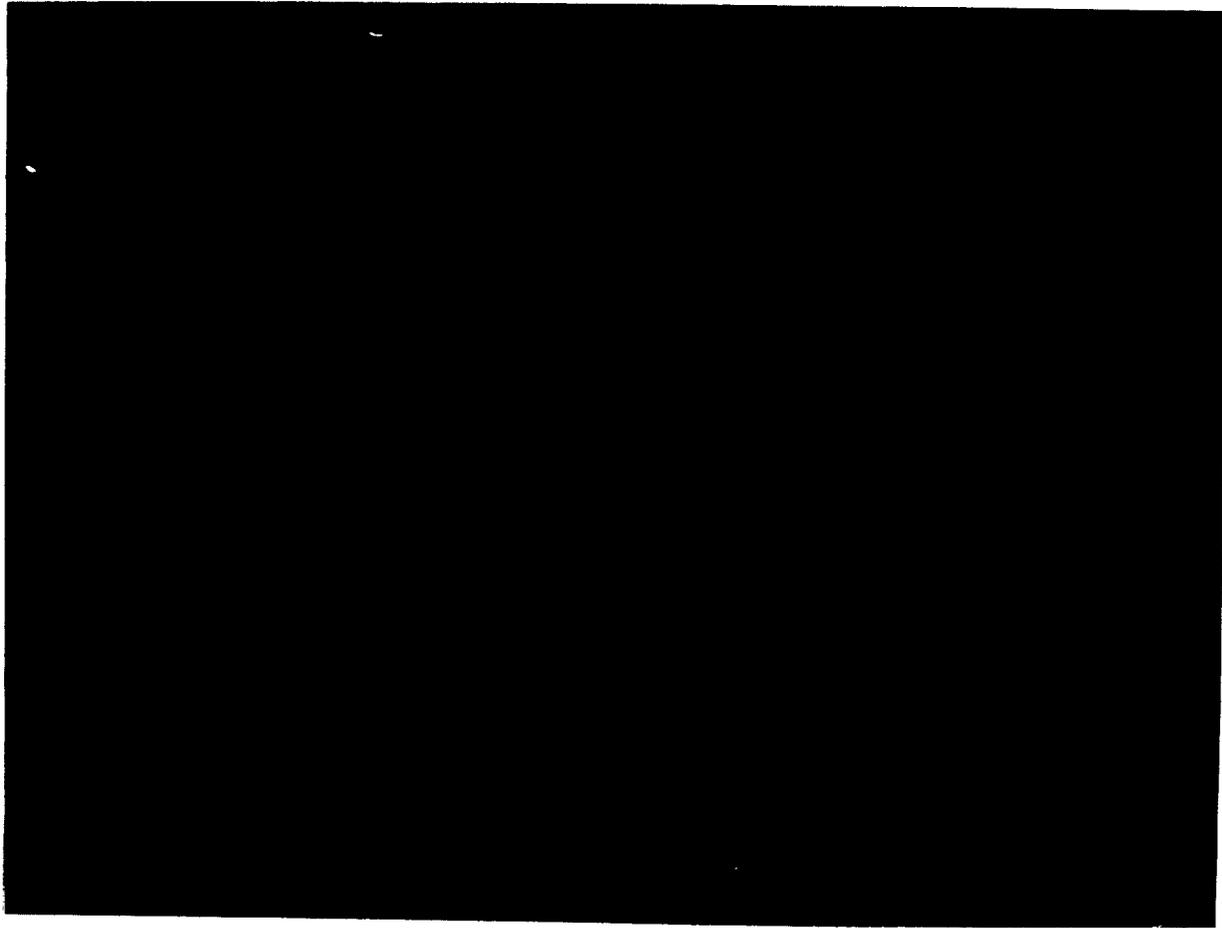
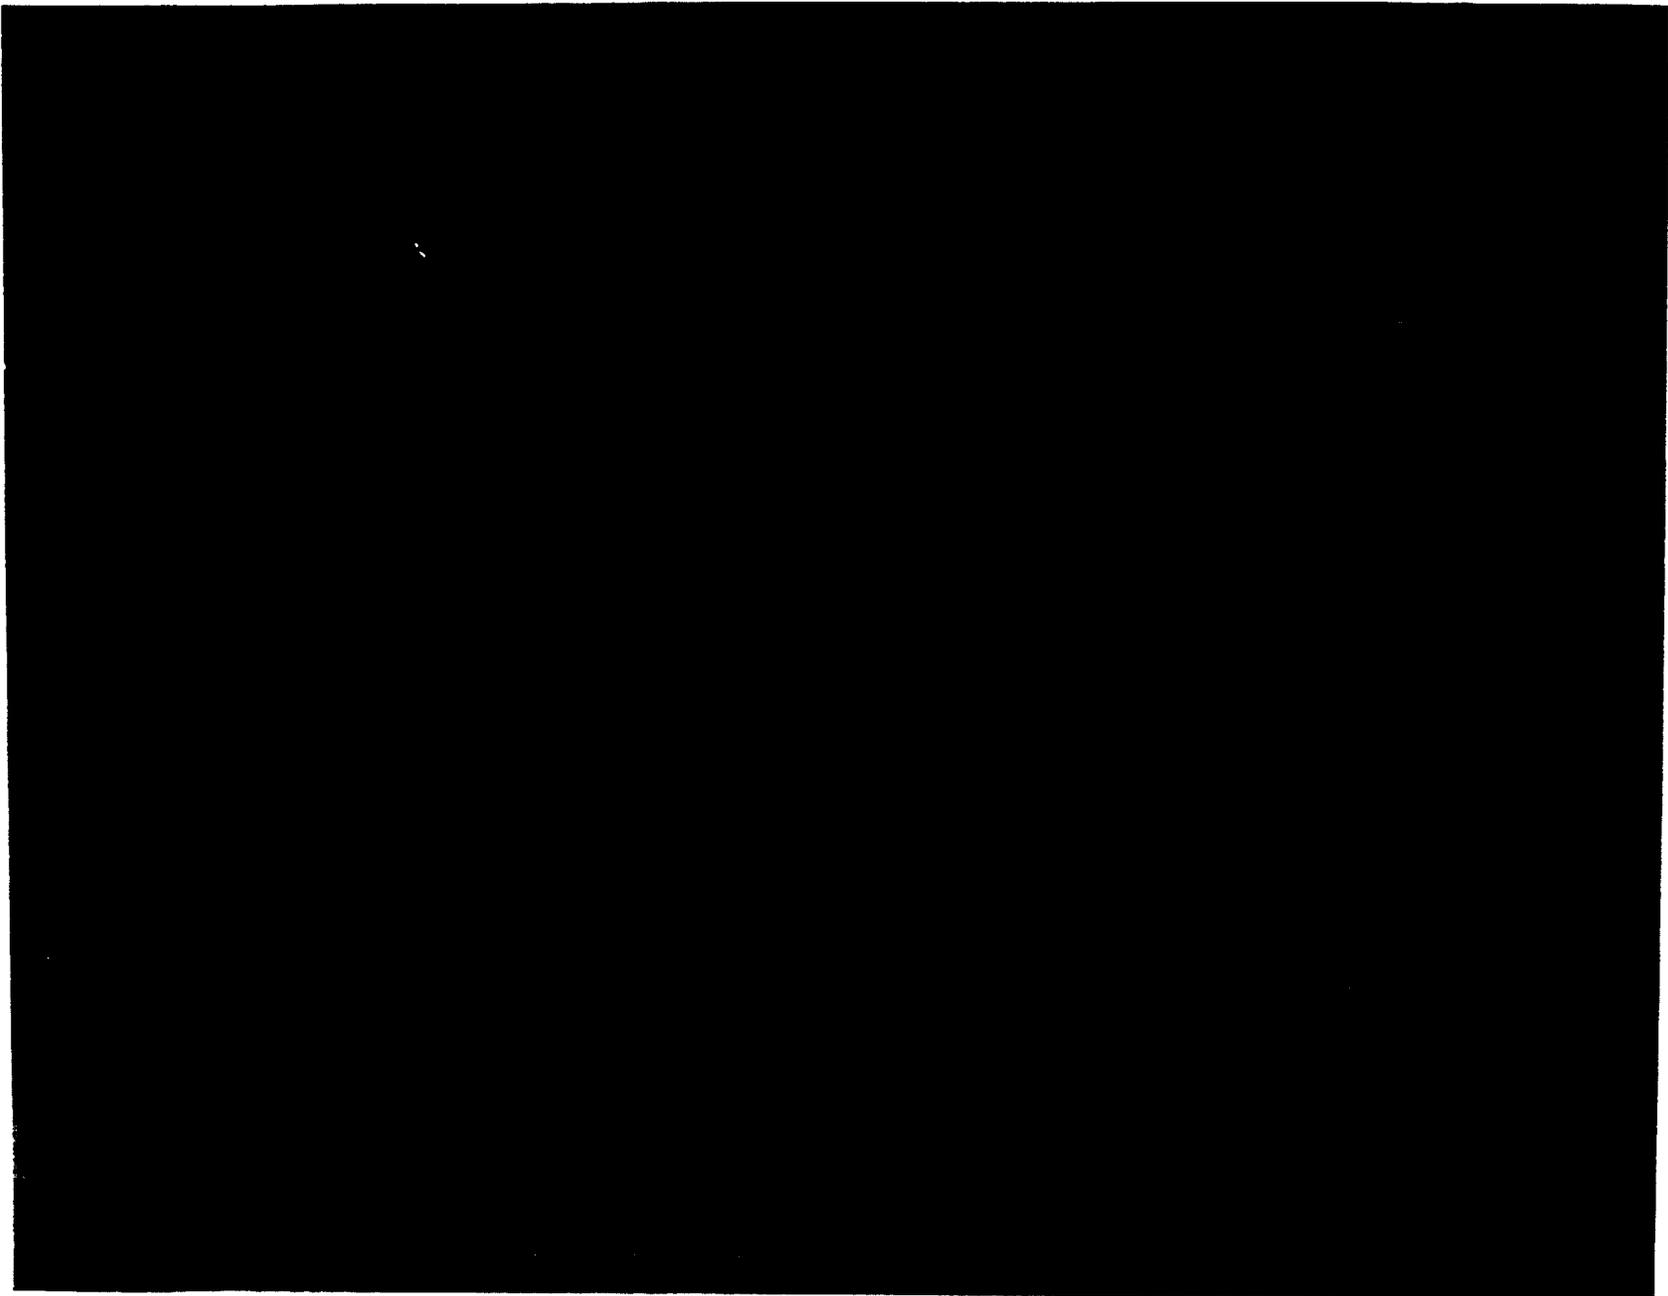

Figure 4-3. Radar chronograph accessories case showing compartments.
Figure 4-4. Chronograph and mount in reusable container.
- (1) Disconnect all cables from chronograph connectors and screw connector protective caps into place.
- (2) Remove telescope XM128 from chronograph and place it in carrying case M87. Stow telescope and case in chronograph accessories case (fig. 4-3).
- (3) Loosen leveling base (lock handle).
- (4) Turn elevation level-adjust drive knob until travel-lock pin can be pushed in to engage sector gear.
- (5) Loosen the three tripod leveling base lock handles, turn to release the leveling base, and lift off chronograph and mount. Rest on clean padded surface.
- (6) Loosen the elevation lock handle on the mount yoke and swivel the chronograph unit into a position with the antenna pointing away from the
- (9) Lift chronograph and mount and carefully place in lower cradle section of chronograph reusable container with chronograph handles up (fig. 4-4).
- (10) Put upper cradle section in place and strap down.
- (11) Close chronograph container cover and engage and seal latches.
- (12) Loosen tripod spider hand knob to release spider assembly, and fold legs in until stay rod latch engages with stay rods.
- (13) Loosen leg clamp hand knobs and retract telescoping leg tube assemblies.
- (14) Place tripod in chronograph accessories case (fig. 4-3). If auxiliary feet were in use, first clean them and place on bottom of cushion cavity with studs in holes provided.
- (15) Remove microphone from cable, and package the microphone, and place in proper compartment of chronograph accessories case.
- (16) Place radar test receiver and special purpose cable assembly in special plastic case and insert into proper compartment in chronograph accessories case.
- (17) Place chronograph automatic reliability rater (CARR) into proper com-